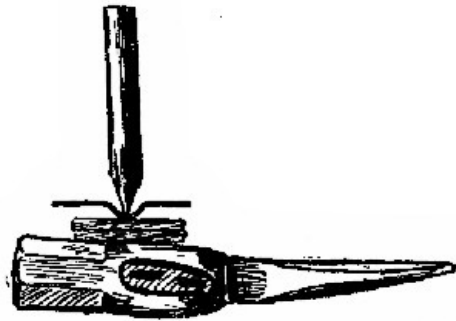

Fig. 42.
**88. The "Needle,"** that is the short bar magnet, may be made of watch-spring. As the spring is already quite hard and brittle, it may be easily broken into desired lengths. It is always better to make 3 or 4 needles at a time, as some will swing more easily than others, and time will be saved in making them. Break off 3 or 4 pieces of thin spring, each about  $1\frac{1}{2}$  in. long. Bend them as in Fig. 42. A good dent, not a hole, should be made at the center of each to keep them upon the support or pin-point. A "center punch," not too sharp, is the best tool to use, but a slight dent may be made with a sharp wire nail, provided the watch-spring is first annealed or softened. (See App.)
21.) Do not place the spring directly upon iron or steel when making the dent, as these might injure the point of the punch, and the dent would not be deep enough. Fig. 42 shows a good way to make dents in steel springs. Place 2 or 3 layers of copper or lead between the anvil and the spring. A hammer or hatchet will do for the anvil. As the copper will give easily, a good dent may be made by striking the punch or nail with a hammer. If the spring has been annealed before denting it, it should be hardened again (App. 21) before magnetizing it, so that it will retain magnetism well. (See Residual Magnetism in text-book.)